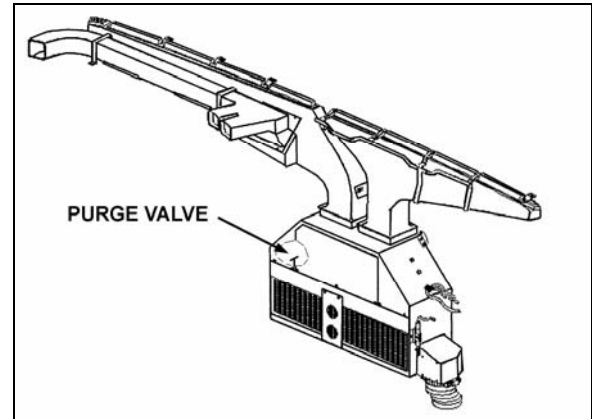

FIGURE 42: DRIVER'S UNIT AIR MIXING BOX 22171PV
4. From inside of vehicle, remove the grill and the access panels. Open the purge valve located inside the driver's unit (figure 42) to ensure an efficient draining.
Whenever the heating system has been drained and refilled, or the system has run low on coolant and coolant has been added, it is necessary to bleed air from heating system. Locate the purge valve illustrated in figure 42 & 43, and open them momentarily until no air escapes from the lines.